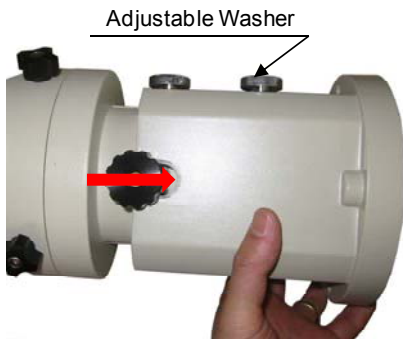

Figure 21
8. Place the AZ base onto the mount head with Vertical Locking Nut placed in the open slot on AZ base (**Figure 21**). Be careful that the mount will be bottom heavy.